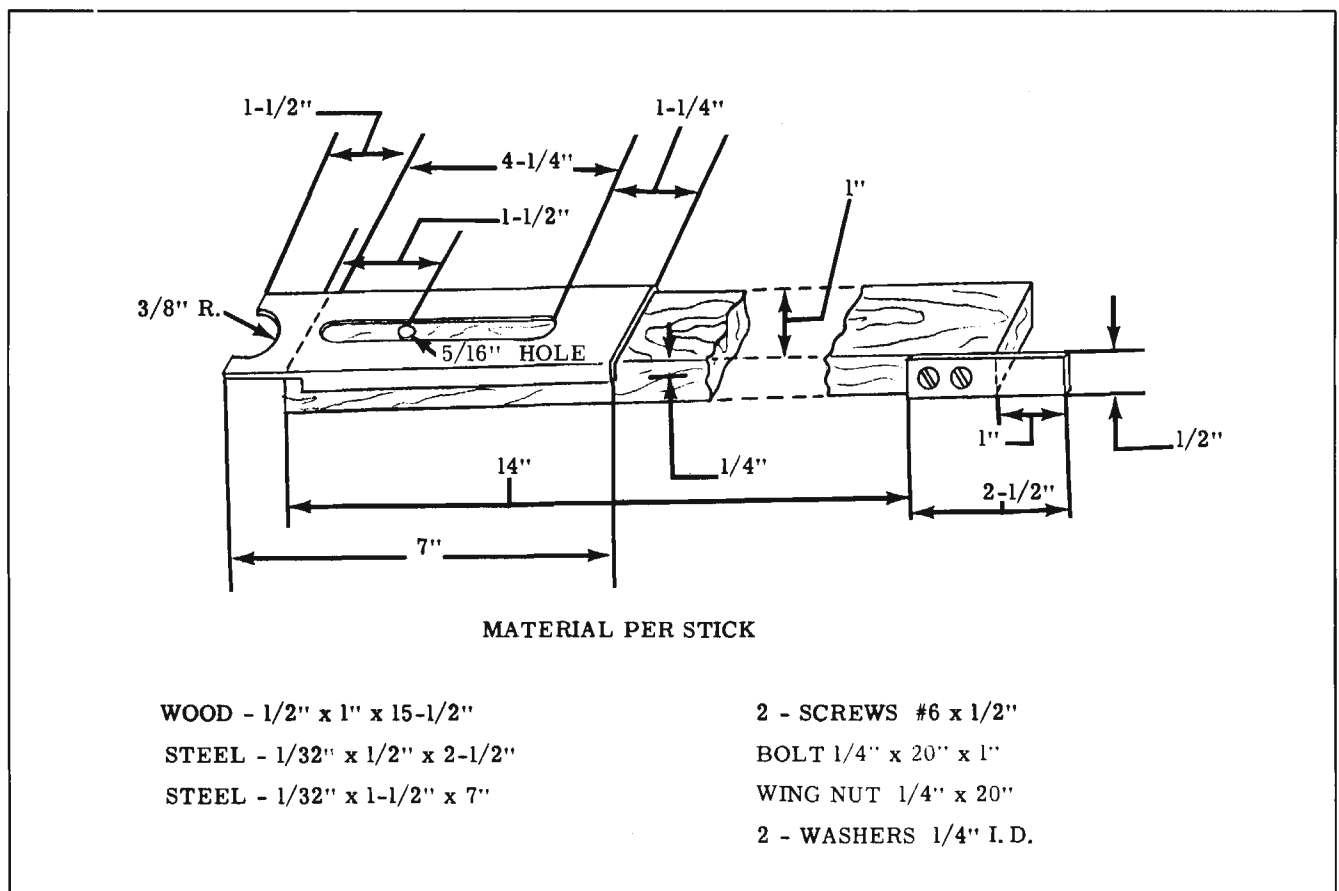

Fig. 16-117 Spacer Stick Dimensions
15. Spacer stick may be fabricated as shown in Fig. 16-117.